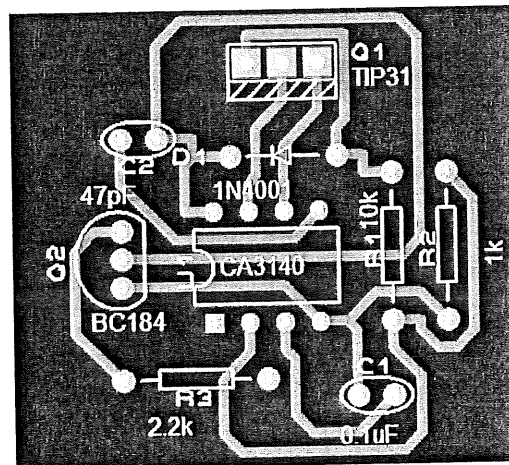

Figure 2
- d) By referring to the PCB diagram given in Figure 2.